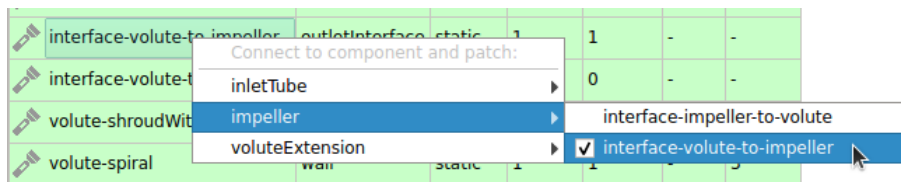

Figure 7.11: TCAE – connecting the **inletInterface** / **outletInterface** / **freestreamInterface** patches.
- **inletInterface** – Entry to other components, connected to some preceding component. It is necessary to connect this interface to a specific **outletInterface** patch in another component by right-clicking on the row and selecting the component and patch (see figure 7.11). This change will be reflected in the component graph.**
- **outletInterface** – Exit from other components, connected to some following component. It is necessary to connect this interface to a specific **inletInterface** in another component by right-clicking on the row and selecting the component and patch (figure 7.11). This change will be reflected in the component graph.**
- **freestreamInterface** – For interfaces where both flow direction may occur, e.g., open propellers. It is necessary to connect this interface to a specific **freestreamInterface** patch in another component by right-clicking on the row and selecting the component and patch (figure 7.11). This change will be reflected in the component graph. This type always imposes **cyclicAMI** boundary condition.